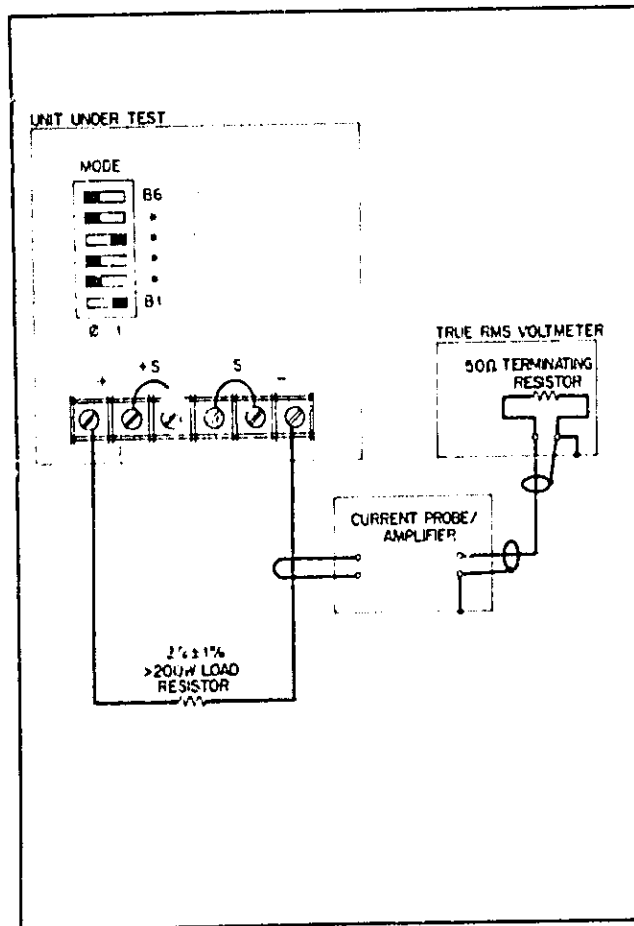

Figure 5-10. CC PARD Test Setup
- a. Connect the test equipment as shown in Figure 5-10.